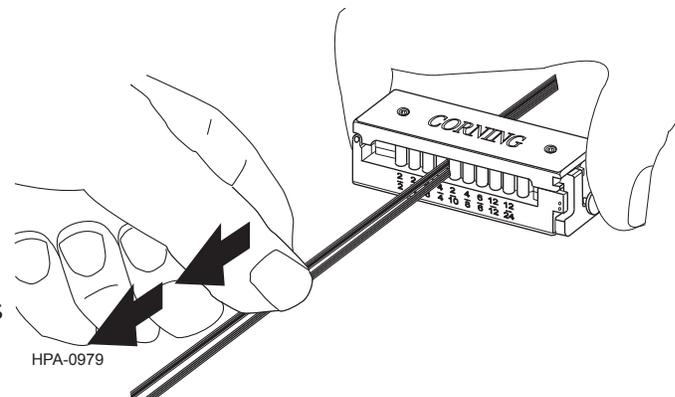

Figure 16
Step 2: If appropriate for your installation, divide the ribbon(s) using the RST-000 tool as described in SRP-004-098, Corning Cable Systems Ribbon Splitting Tool (RST-000) Instructions (Figure 16).